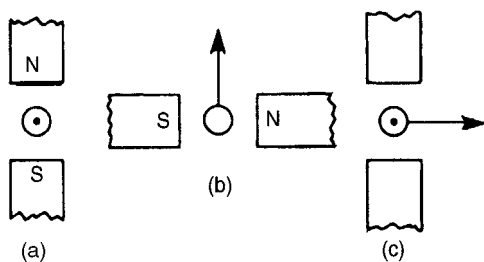
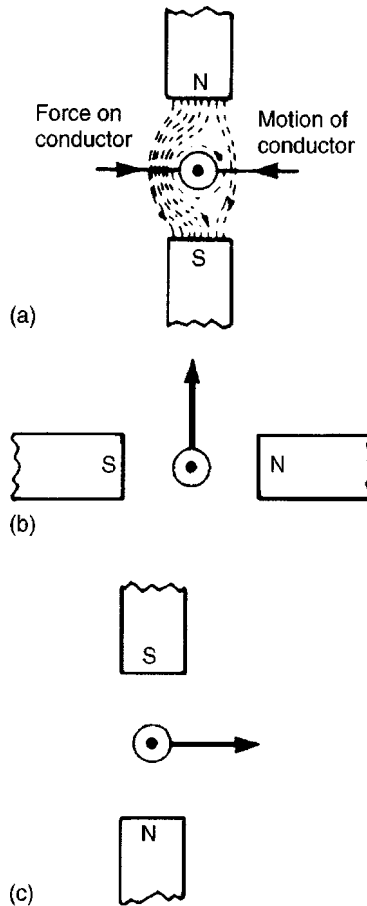

Figure 9.4
Figure 9.5
Problem 5. The diagrams shown in Fig. 9.4 represents the generation of e.m.f.'s. Determine (i) the direction in which the conductor has to be moved in Fig. 9.4(a), (ii) the direction of the induced e.m.f. in Fig. 9.4(b), (iii) the polarity of the magnetic system in Fig. 9.4(c)
(i) Using Lenz's law: The field due to the magnet and the field due to the current-carrying conductor are shown in Fig. 9.5(a) and are
i.e. **towards the viewer or out of the paper**, as shown in Fig. 9.5(b)
(iii) The polarity of the magnetic system of Fig. 9.4(c) is shown in Fig. 9.5(c) and is obtained using Fleming's right-hand rule.